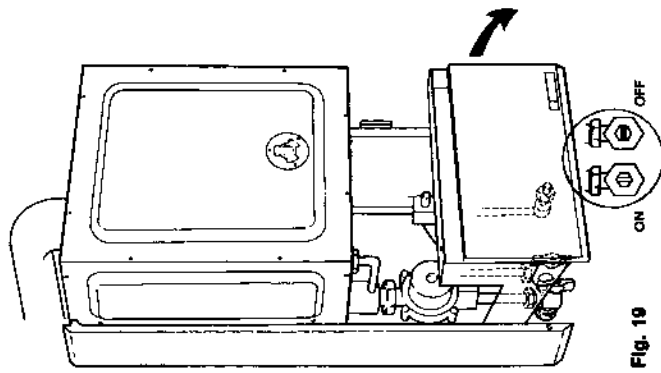

Fig. 19
5.7.2 To gain access to the electrical terminals hinge down the spring loaded control fascia (ref to fig. 19) until it rests in an approximately horizontal position.